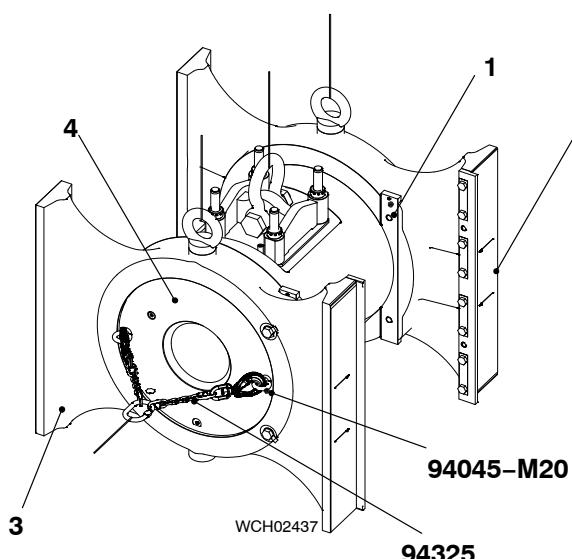

Fig. 5
- 25) Remove the two bolts, tab washers and holding plates (1, Fig. 5) from the from the guide shoe (2).
- 26) Attach the two eye bolts (94045-M20) and the the chain (94325) to the crosshead pin (4).
- 29) Use the manual ratchet (94016-031) to pull the crosshead pin (4) until the guide shoe (2 or 3) is clear.
- 32) Attach the eye bolts (94045-M20), chain (94325), shackle (94018B) and manual ratchet (94016-031) to the other side of the crosshead pin (4).
- 34) When the crosshead (4) is in the first or last cylinder position, do step 35) to step 41).
- 2) Use the manual ratchets (94016-011, Fig 5) to lower the guide shoe (2) to the door frame.